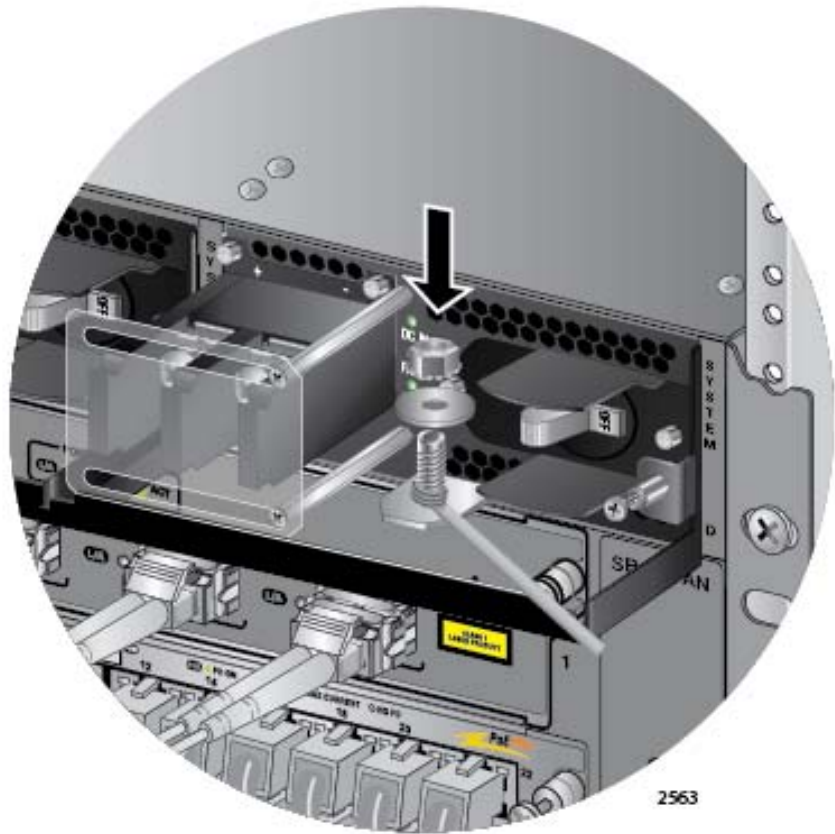

Figure 123. Securing the Bare Grounding Wire to the Grounding Post
4. Secure the wire with the nut and washer removed in step 2, and an 8 mm wrench, as shown in Figure 123.